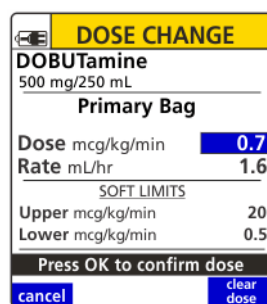

Figure 75. Dose Change Screen with New Dose.
- Enter a new dose. See Figure 75.